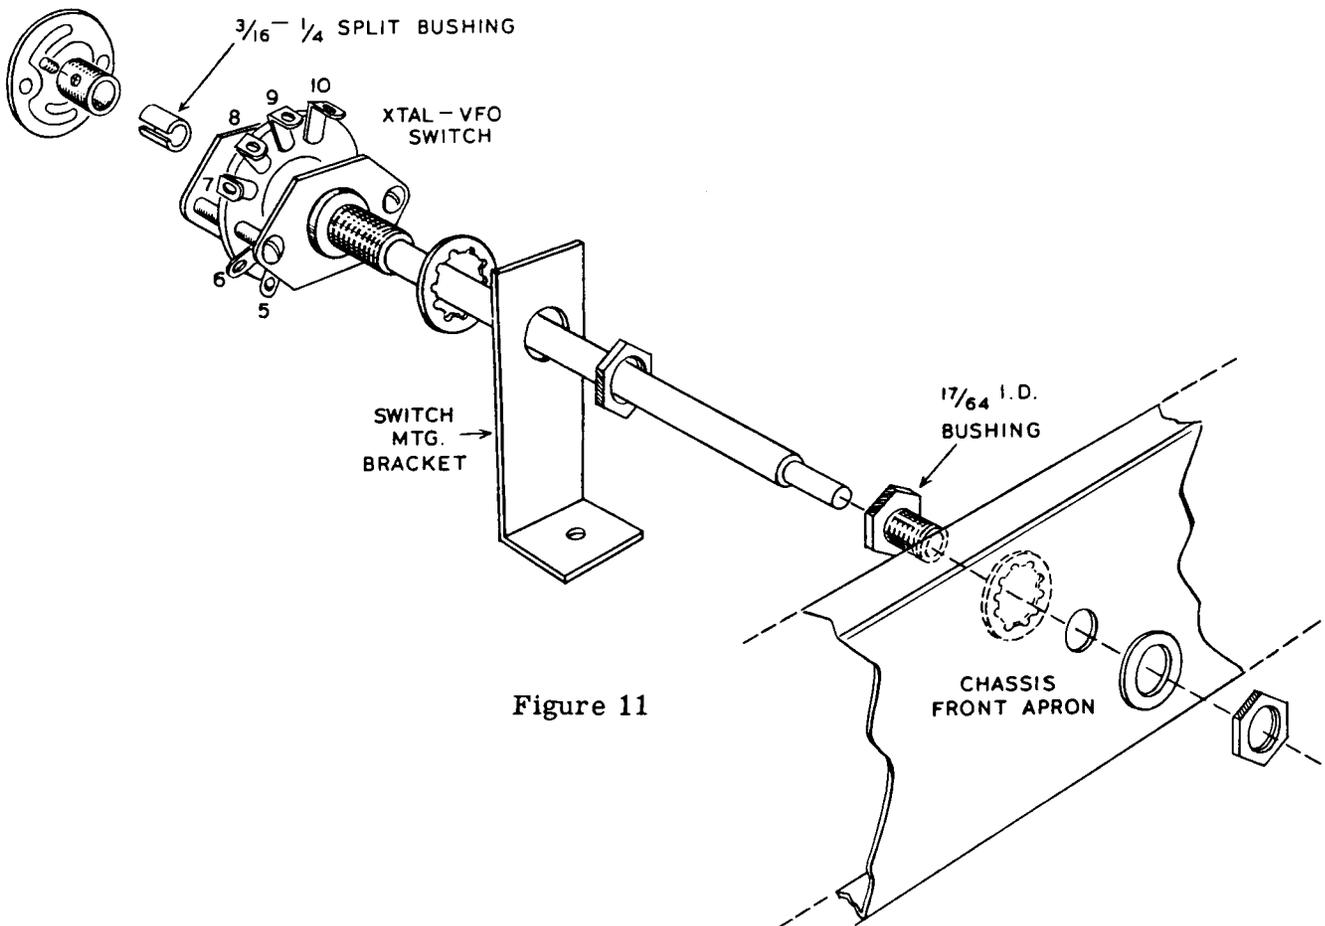

Figure 11
- ( ) Prepare the XTAL-VFO switch for mounting by connecting two  $6 \frac{1}{4}$ " blue wires to terminals 1 and 2 (S). Refer to Pictorial 7 for terminal identification.
- ( ) For actual mounting, refer to Figure 11. While mounting the switch, guide the two blue wires through the  $\frac{5}{16}$ " grommet adjacent to the switch and leave the other ends free.
- ( ) Connect the green wire coming through the Spirashield to terminal 5 of the XTAL-VFO switch (S).
- ( ) Strip both ends of a 4 1/4" green wire and connect one end to switch terminal 10 (S). Pass the wire through the 5/16" grommet and leave the other end free.
- ( ) Install the mounting plate and potentiometer just in back of the XTAL-VFO switch and couple the two units together as shown in Figure 12. Use the split bushing over the switch shaft to fit the insulated coupler as indicated in Figure 11. Use 6-32 hardware to mount the plate and tighten the plate to the chassis before tightening the coupler set screws. Care should be used to prevent damage to the RF choke immediately behind the potentiometer.
- ( ) Again, refer to Pictorial 7 and connect the free end of the 6.5 K $\Omega$  resistor to terminal 3 of the driver potentiometer (S). Position leads as shown.
- ( ) Connect the free end of the orange wire coming from pin 6 of the 5763 socket to terminal 2 of the drive control potentiometer (S).
- ( ) Connect a .005  $\mu$ fd disc ceramic capacitor from this same solder lug (S) to the adjacent 1-lug terminal strip (NS).
- ( ) Connect the free ends of the green wire and the 27 K $\Omega$  resistor to the 1-lug terminal strip (S).
- ( ) Refer now to the clamp potentiometer and the adjacent terminal strip in the upper right hand corner. The violet wire coming out of the cable at point 4 should connect to terminal 3 of the potentiometer (NS).
- ( ) Connect a 5.55  $\Omega$  shunt resistor from terminal 3 of the potentiometer (S) to lug 3 of the terminal strip (NS). Arrange this resistor to clear the small hole in the chassis.
- ( ) Connect a .005  $\mu$ fd disc ceramic capacitor from lug 2 of the terminal strip (S) to lug 3 of the terminal strip (NS).
- ( ) Connect the brown and green wires at point 4 of the cable to lug 3 of the terminal strip (S).
- ( ) Connect a 470 K $\Omega$  resistor (yellow-violet-yellow) from lug 1 of the strip (NS) to terminal 1 on the potentiometer (S).